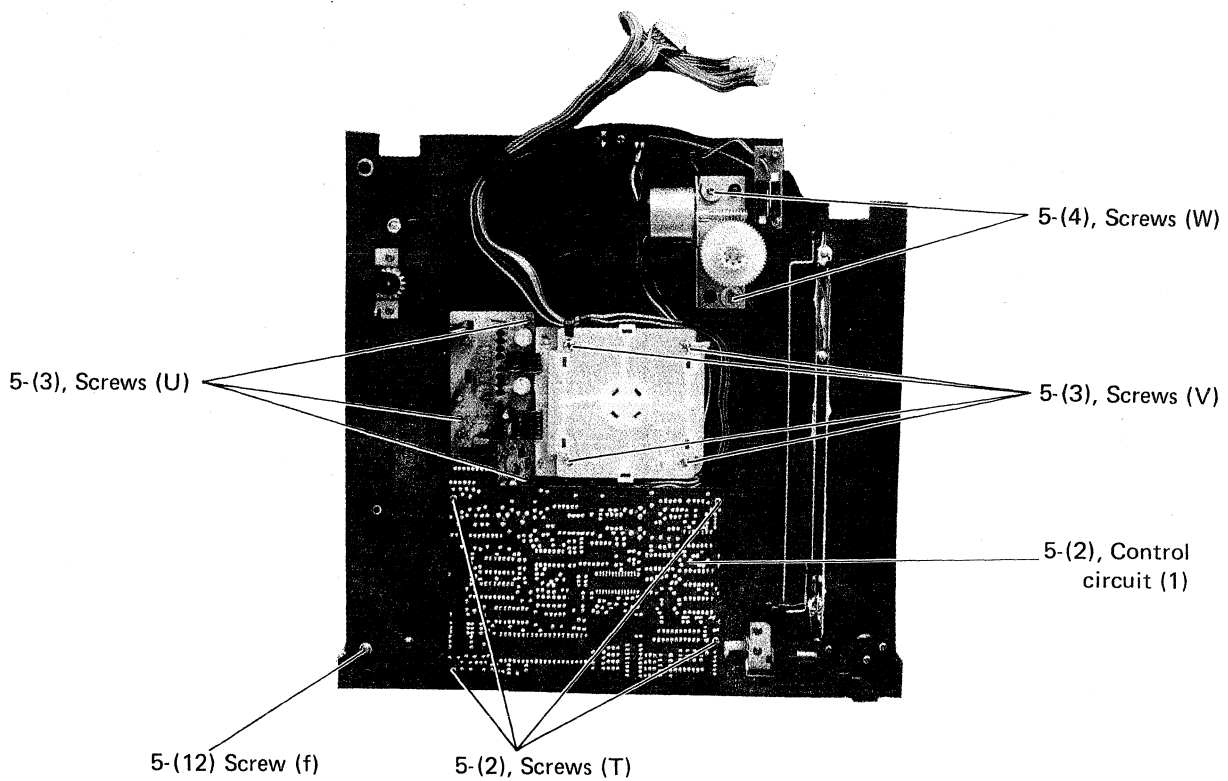

Fig. 12
- (2) Dismount control circuit ass'y (1). (See fig. 12, 13)
- 1. Remove 4 pcs. of screws (T) from the circuit (1). (See fig. 12)
- (3) Dismount main motor. (See fig. 12, 13)
Remove 3 pcs. of screws (U) and 4 pcs. of screws (V) from the PWB ass'y so that the motor can be dismantled. (See fig. 12)
- (4) Dismount mechanism of drawer. (See fig. 12, 13)
- (12) Hinge retainer (1) and hinge plate ass'y (2) (See fig. 12)